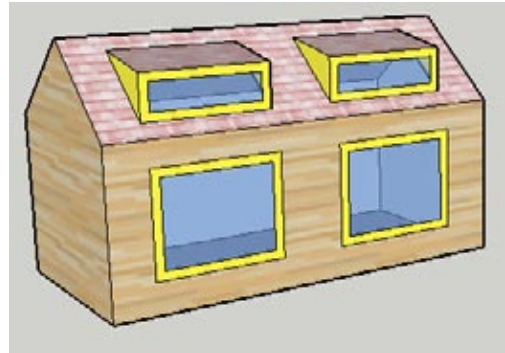

Figure 5-22
11. Copy the entire dormer to the right, so that it sits above the other window (Figure 5-22). For the move points, use similar reference points on the windows below.